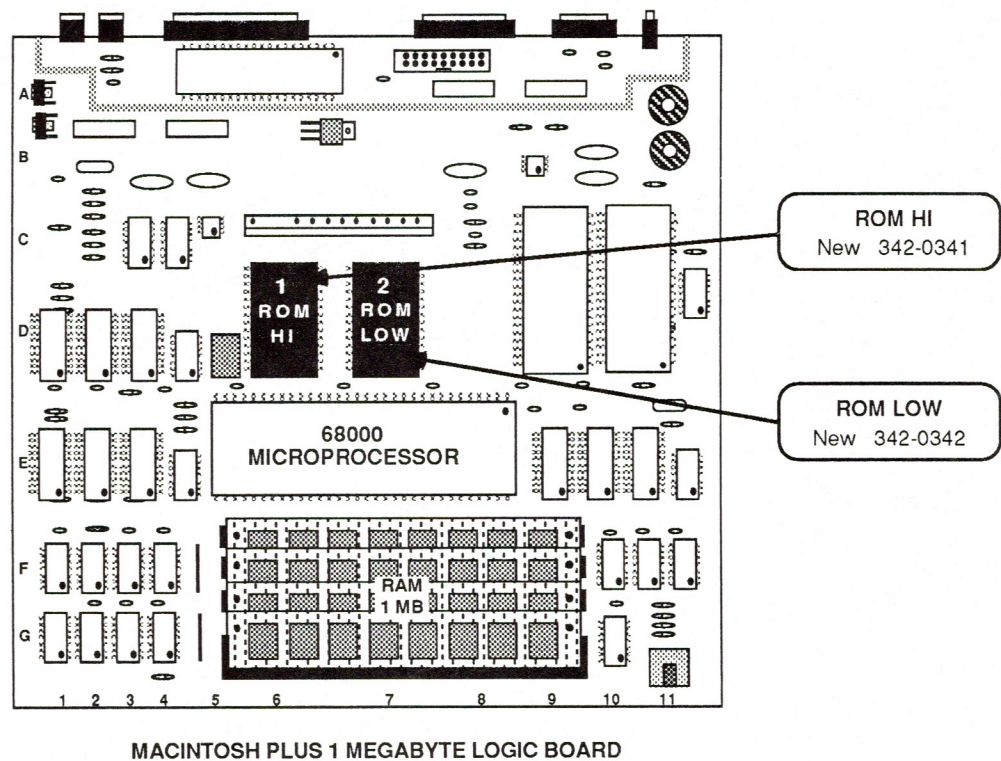

FIGURE 3
5. Install the two ROMs in the appropriate locations on the **new** logic board: ROM HI (P/N 342-0341) at location D5, ROM LOW (P/N 342-0342) at location D8. (Refer to Figure 3, Macintosh Plus 1 Megabyte Logic Board.) There is a notch at one end of each ROM. This notch should face the front of the machine on installation.